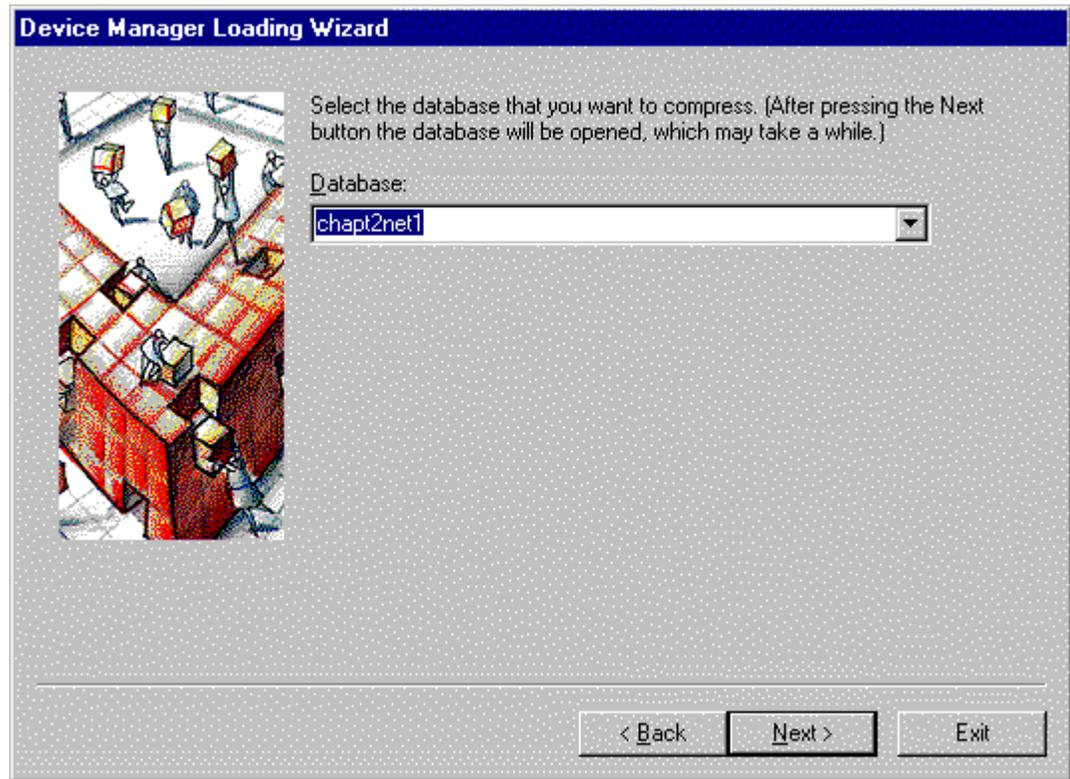

Figure 5.3 – Select Database
9. Click Next. The window shown in figure 5.3 will appear.